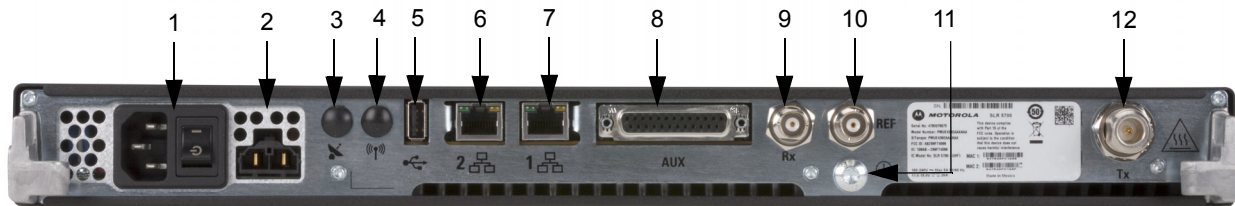

Figure 12-4 Back Panel Connector Names and Locations
Figure Figure 12-4 shows the position of the repeaters external connectors located on the back panel of the repeater. Table 12-4 identifies the connector types as well as a given connector’s primary function.
Each repeater is shipped with an 2.5 m (8 ft) 3-conductor line cord. Figure 12-4 shows the AC power inlet connector. Insert the plug into an appropriate grounded outlet. The North American line cord is equipped with a NEMA 5–15 plug, intended for 110/ 120 VAC operation. The European line cord is equipped with a “Schuko” style CEE VII (7) plug, intended for 220/ 240 VAC operation.
For DC operation, the DC source power is connected to the repeater through the DC power inlet connector shown in Figure 12-4. The operation is also described in the “Battery Connection” section of this chapter. The DC source must be located in the same building as the repeater, and it must meet the requirements of an SELV circuit.
The repeater is equipped with a ground screw located on the back panel. Figure 12-4 shows the location of the grounding screw. Connect the ground screw to the site ground point. The size of the wire used for this connection must be 8 AWG minimum.
Battery backup interface offers the capability of connecting to battery backup power in the event of an AC power line failure. The battery backup system is connected to the repeater through the DC inlet connector on the rear panel of the repeater. See Figure 12-4 for the location of the DC inlet connector.
The transmit and receive antenna RF connections are made using two separate connectors. Coax cables from the receive and transmit antennas must be connected to their respective connectors. The position of these connectors is shown in Figure 12-4, and their respective connector types are noted in Table 12-4.
System connections are made through the Aux and/or Ethernet connectors located on the back panel of the repeater. The positions of the Aux and Ethernet connectors are shown in Figure 12-4.